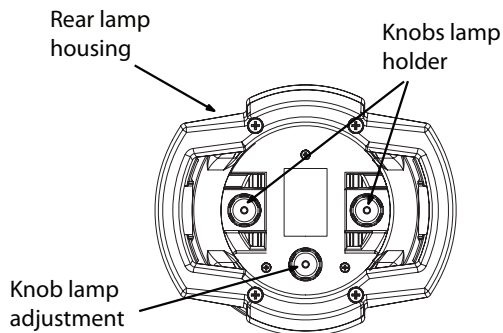

Fig.3
2. Unscrew the knobs lamp holder (fig.3).
The knobs located on the lamp housing allow you to align the lamp and adjust its field (fig.3).